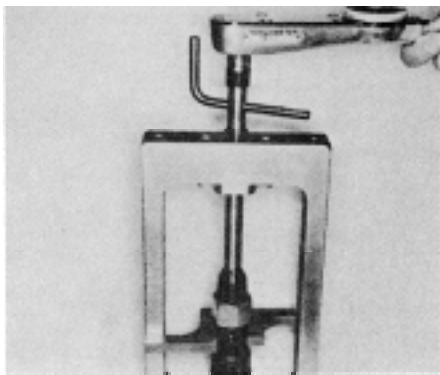
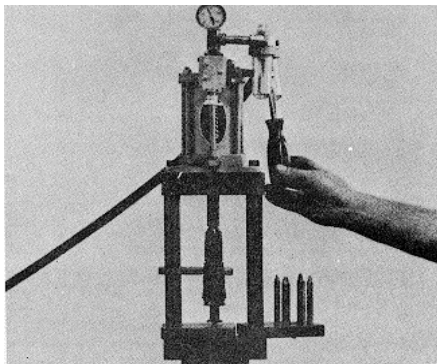

Fig. 6-1-34, F60196. Torquing loading fixture stud of 3375084
Fig. 6-1-35, F60235. Adjusting air pressure on ST-1298
12. Tighten stud in 3375084 to 75 in. lbs. (8.5 N.m), Fig. 6-1-34, or activate air cylinder on ST-1298 to 70 psi (483 kPa) to align cup and plunger. Fig. 6-1-35.